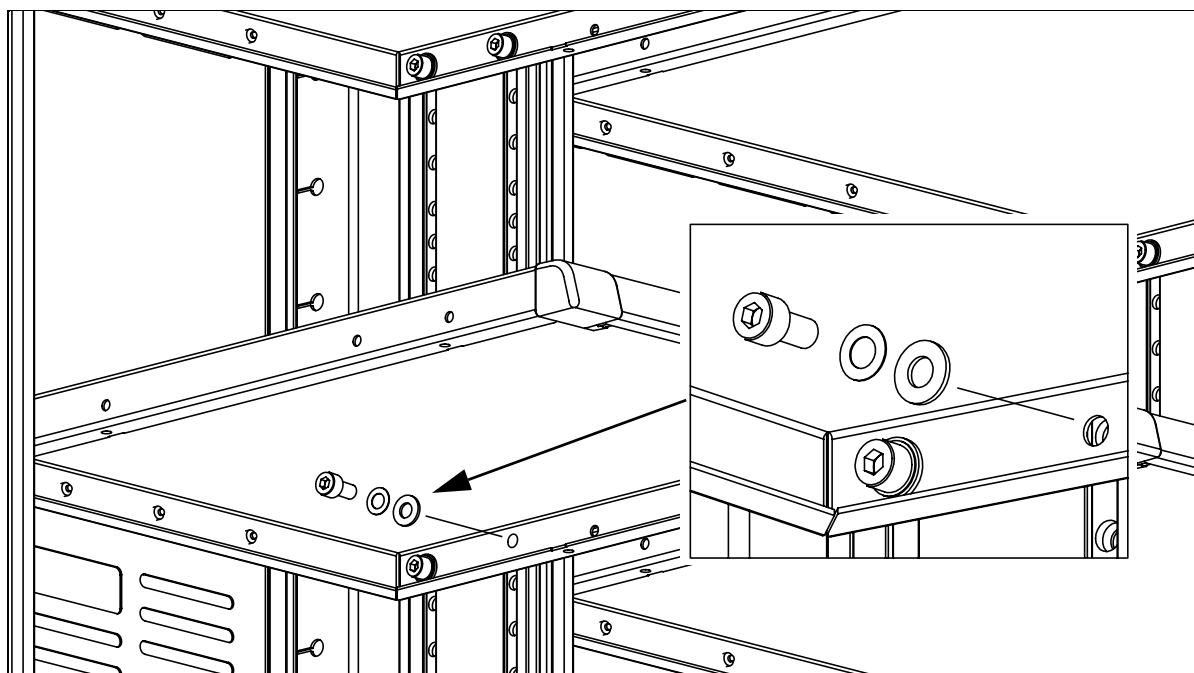

**Figure 4.2**
2. Referring to Figure 4.2, use the 6mm A/F L-wrench to remove the four M8 screws with crinkle and plain washers from the underside of the shelf.